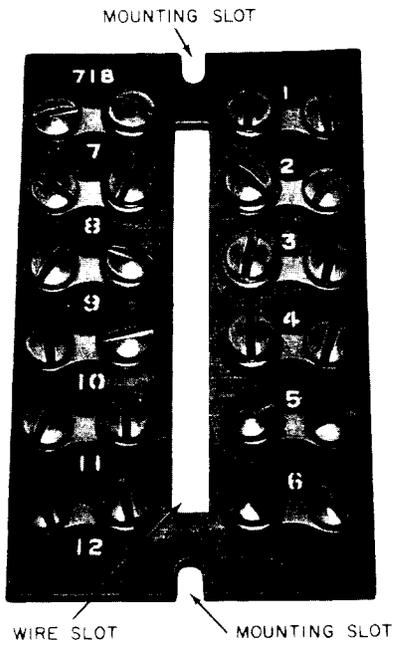

Fig. 1—71B Connecting Block
**2.02** The 71B connecting block (Fig. 1) is similar to the 71A connecting block (MD) except it has mounting screw slots instead of holes. The connecting blocks consist of a phenol fabric base equipped with 12 double-screw terminals. The blocks are used for mounting in 113-type and 114A apparatus boxes for installation of panel telephone sets (Table A).